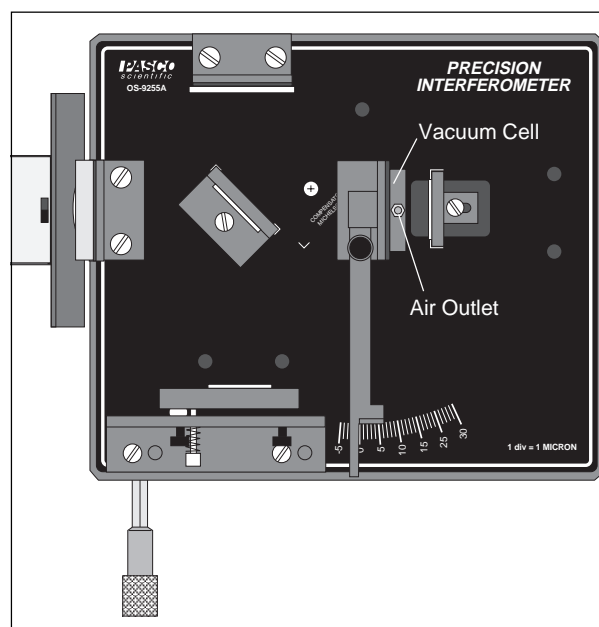

Figure 2.2. Equipment Setup
2. Place the rotational pointer between the movable mirror and the beam-splitter (see Figure 2.2). Attach the vacuum cell to its magnetic backing and push the air hose of the vacuum pump over the air outlet hole of the cell. Adjust the alignment of the fixed mirror as needed so the center of the interference pattern is clearly visible on the viewing screen. (The fringe pattern will be somewhat distorted by irregularities in the glass end-plates of the vacuum cell. This is not a problem.)